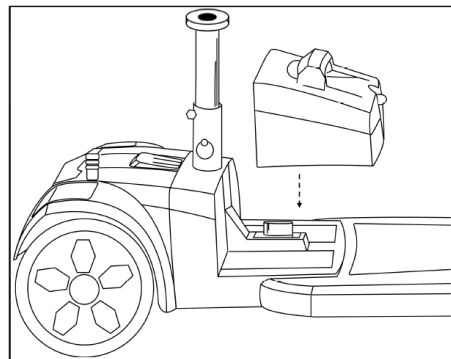

Figure 22: Battery Pack Installation
3. Gently lower the battery pack onto the frame. See *Figure 22*.